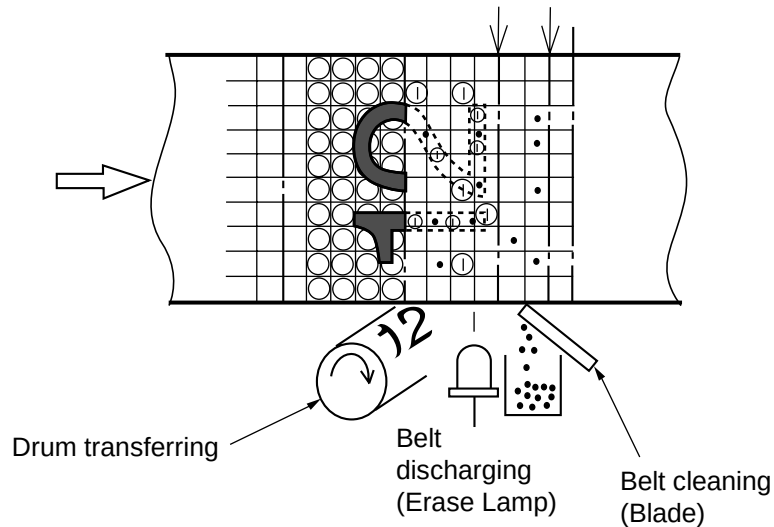

Fig.4-19
(2) Process of Discharging (Refer to Fig.4-19.)